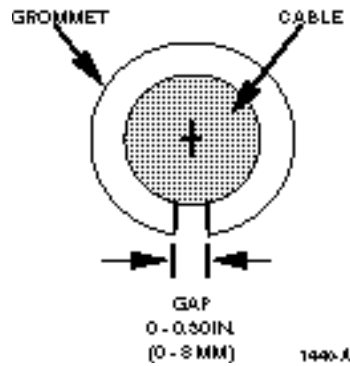

Figure 13. Grommet Selection
4. Two rubber yokes and either three or four grommets (depending on the kit) are provided with the cable clamp kit for securing the cable to the FTB. Select the grommet that, when placed on the cable, results in the gap width shown in Figure 13.